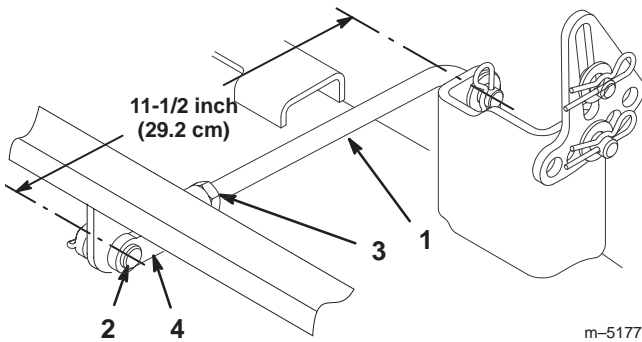

Figure 40
6. Measure the length of the rear trunion rod (Fig. 40). If the rod length is not 11-1/2 inch (29.2 cm), remove the clevis pin and cotter pin from the end of the rod (Fig. 40), loosen the jam nut, and turn the yoke until the 11-1/2 inch (29.3 cm) dimension is obtained. Then secure the yoke with the clevis pin and cotter pin. Repeat this procedure on the opposite side of the mower.
12. When the front-to-rear blade slope is correct, tighten the jam nuts (Fig. 40 and 42).